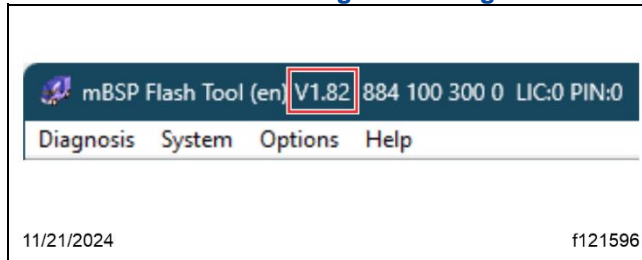

Fig. 20, mBSP Flash Tool Software Version
- An mBSP flash tool software version v1.85 (or later), as shown in Fig. 20, is required to perform this ABS ECU software update procedure.